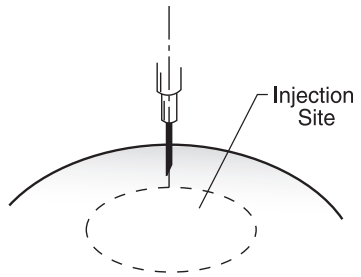

FIGURE 4
Step 1: Insert a new, sterile 21-gauge (or smaller) standard bevel hypodermic needle into injection site (one 21G Needle Infusion Set is provided with the Tissue Expander for the first session). Ideally, the needle should enter perpendicular to the top of the injection site as shown in **Figure 4**.